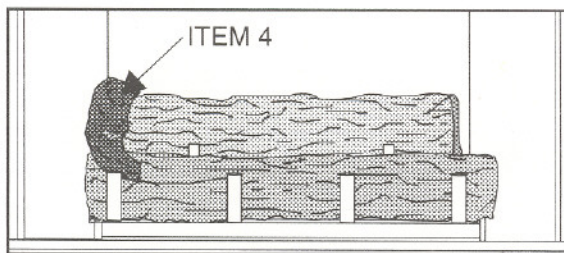

Figure 36
4. See Figure 36. Position one of the "hooked" Logs (Item 4), with the "hook" toward the front. Place the log to the left end of both the Front and Back Logs. The "hook" will lay on the left end of the Front Log and the "straight" end will lay on the left end of the Back Log.